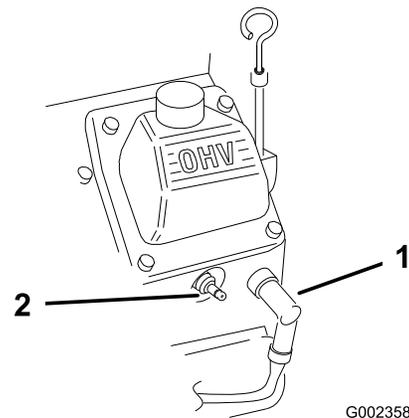

Figure 26
- Disconnect the wires from the spark plugs (Figure 26).